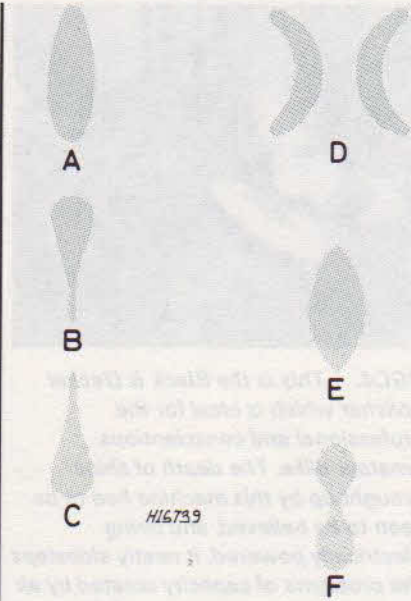

Figure GL7. Spray pattern defects.
2. The normal spray pattern produced by a correctly adjusted spray gun is shown in Figure GL7, as are defective spray patterns which can develop from the following causes: